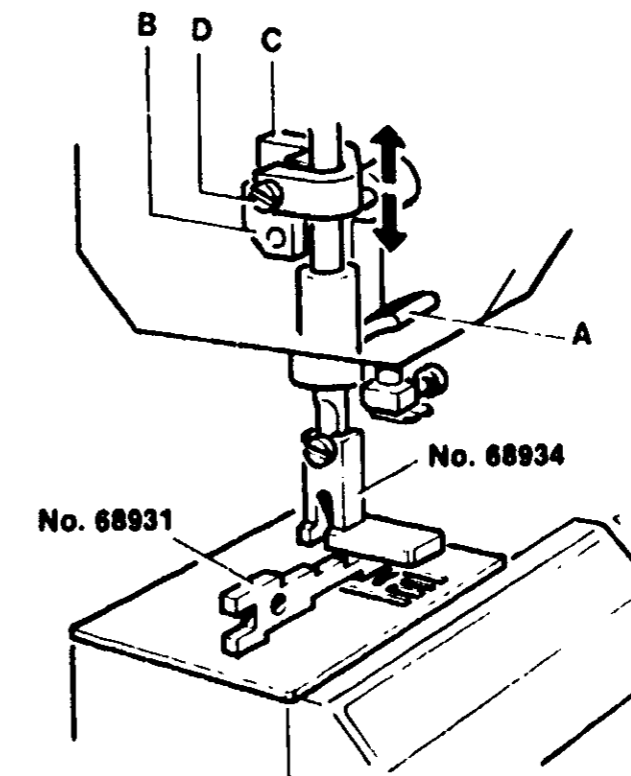

FIGURE 62
- Attach gauge No. 68934 to needle bar (Figure 62).
- If clearance is too low, raise presser foot further by pushing down more on presser foot lever (A). Place gauges as illustrated in Figure 62.
- Loosen screw (D) slightly and slide the presser bar guide (C) up or down until it touches cam (B) (Figure 62). Be careful not to allow the presser bar to rotate. Tighten screw (D) securely.